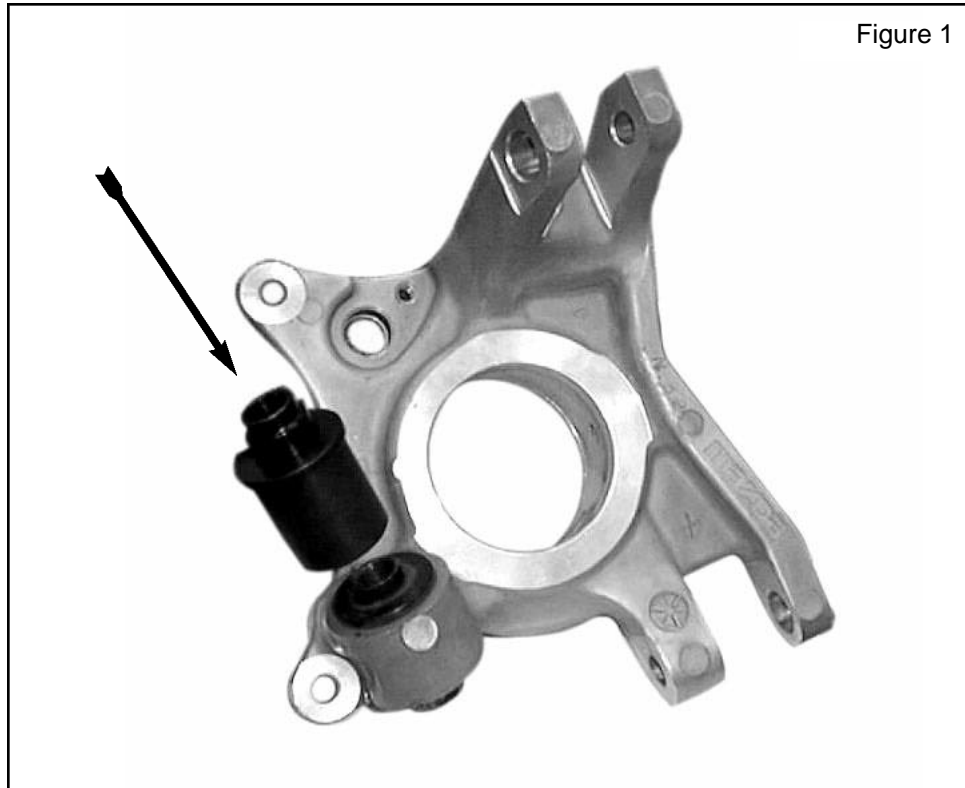

Figure 1
6. The brake rotors must now be removed from the stub axle flanges as follows: Remove the (2) screws that retain each rotor to the stub axle flange and pull the rotor off of the assembly. If the rotor will not separate from this assembly, use the (2) mounting screws you set aside earlier during this step and thread these screws into the threaded holes located on the back-side of the stub axle flanges. By evenly threading these screws from the back-side you will be able to push the rotor from the flange. DO NOT USE A HAMMER AT ANY POINT DURING THIS STEP—YOU RISK COSTLY DAMAGE TO THE ROTOR AND/OR WHEEL BEARING.
7. Once you have removed the (4) bolts which retain each dust shield to its bearing carrier you are now able to remove the rear-steering bushing bolts.
11. (Figure 1) Orient the parts in the correct position (as shown below) by holding each bearing carrier in its upright position, as it would mount on the chassis, and inserting the assembled steel/Delrin bushing assembly into the bearing carrier from the top of the bearing carrier. Press the steel/Delrin bushing assembly into the bushing bore until the lip (or flange) contacts the aluminum. DO NOT PRESS BEYOND THIS CONTACT POINT: YOU RISK DAMAGE TO THE DELRIN BUSHING.